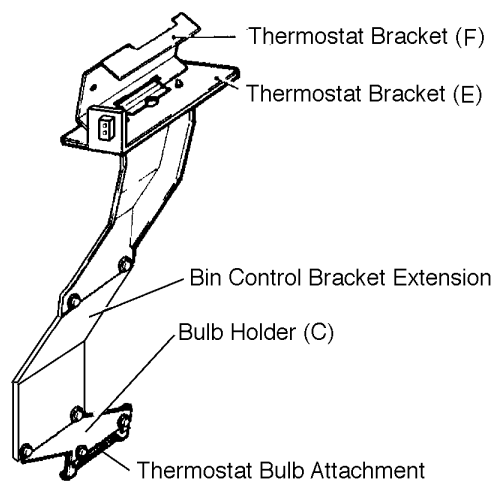

Fig. 3c
- (j) Use the two screws from (i) to attach the Bin Control Bracket Extension to the Thermostat Bracket (E).
- (k) Use the two 4 x 10 stainless steel screws in the accessory bag to attach the Bulb Holder (C) (with attached Thermostat Bulb) to the Bin Control Bracket Extension. See Fig. 3c.